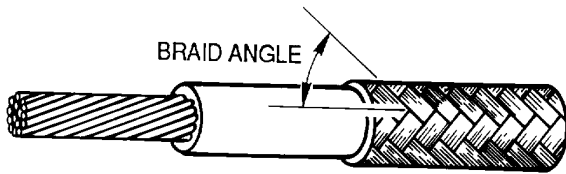

Figure 4. Braid Angle
27. **Braid Angle.** This angle will always be between 0° and 90° when the number of picks is small and 90° when the number of picks is large. A high braid angle increases attenuation and also increases flexibility and flex life. Therefore shield design will be a compromise. Braid angle is shown (Figure 4).